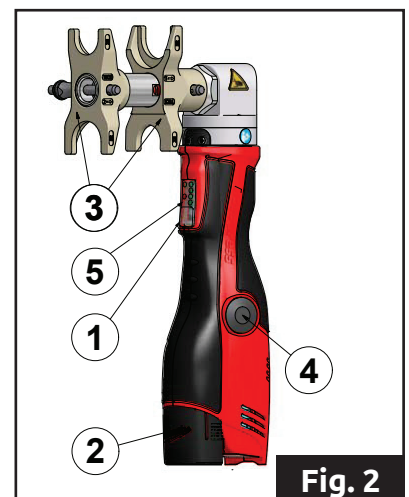

Fig. 2
The pusher tool features positive control. During compression, the pusher tool remains in the position reached, even if the start button (1) (fig.2) is temporarily released. When the intended switch-off force is achieved, it is perceptible by means of an increase in the motor speed and a discernible decrease in pressure. When the start button (1) (fig.2) is released the device returns to its initial position. For safety reasons, the positive control is only activated after a minimum force has been attained. Until this force is achieved, the pressing operation can be interrupted at any time by releasing the start button (1) (fig.2). The device then automatically returns to its initial position.
The release button (4) (fig.2) is used to return the tool to its initial position before the pressing operation has been completed. In order to do this, press the release button (4) (fig.2) until the pusher adaptor (3) (fig.2) has moved back completely
The 4 green LEDs (5) (fig.2) indicate the charge level of the battery. The number of LEDs lit up denotes the battery charge. If the LED is flashing the battery is empty and no further travel is possible.
If the press device is out of use for approx. 30 minutes or the battery is reinserted, it switches off. No LED is lit up any longer. Press the start button (1) (fig.2) briefly to start the press device.